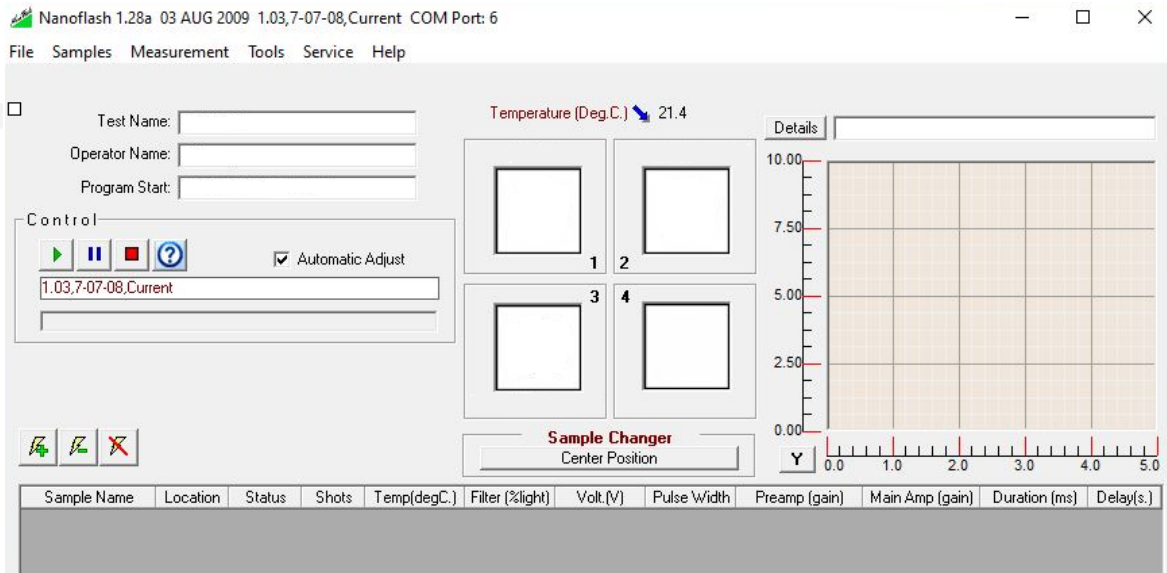

Figure 10. Nanoflash main screen.
- Nanoflash will open to the main screen (as shown in Figure 10).